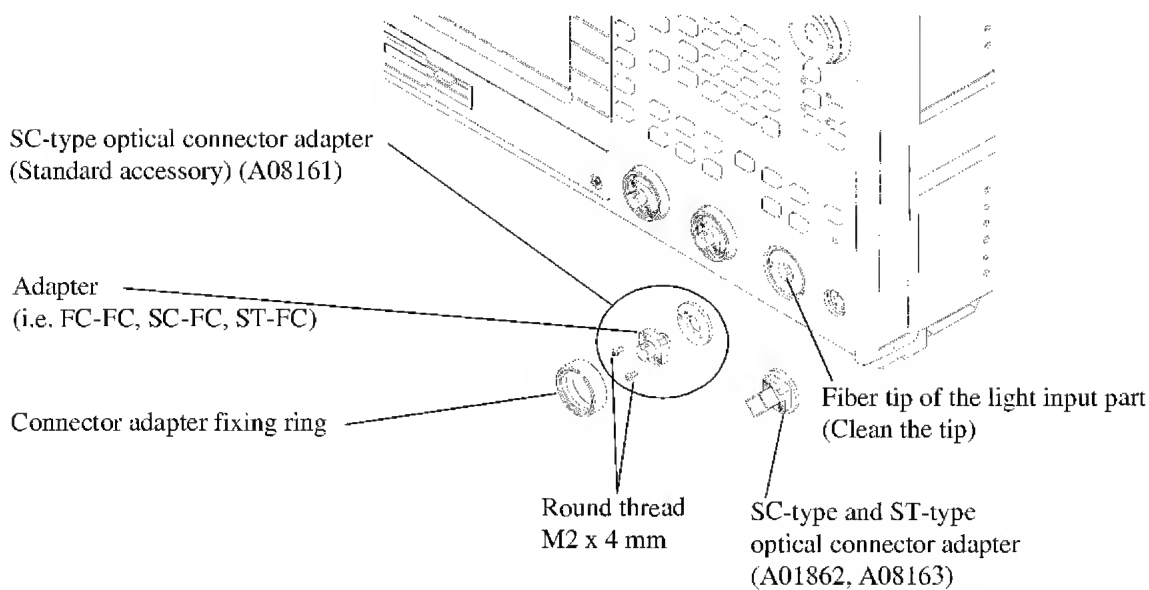

Figure 1-5 Light Input Part Structure
1. Remove the adapter ring by turning it counterclockwise (refer to Figure 1-5).
2. Remove the optical connector adapter by pulling it out slowly (refer to Figure 1-5 "Light Input Part Structure").